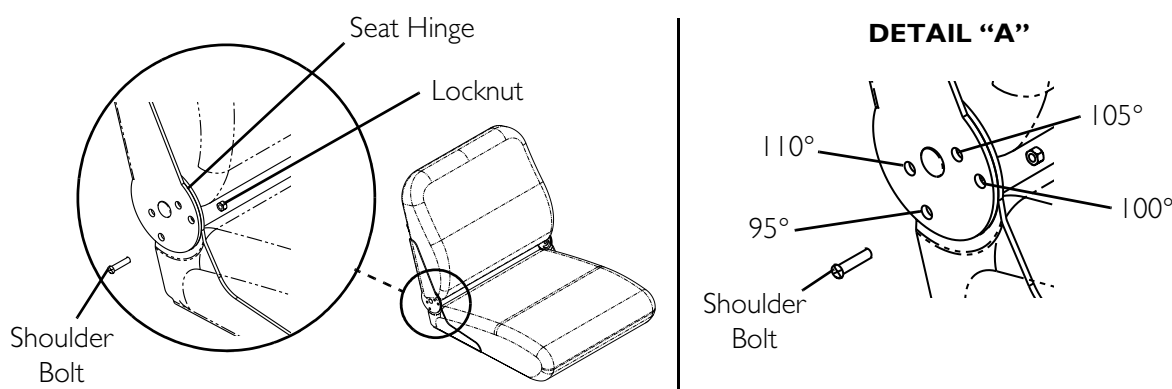

FIGURE 6.2 Adjusting the Back Angle - Fold Down Back Angle
NOTE: For this procedure, refer to FIGURE 6.2 on page 48.
2. Select one of the four back angle positions as shown in Detail "A" of FIGURE 6.2.